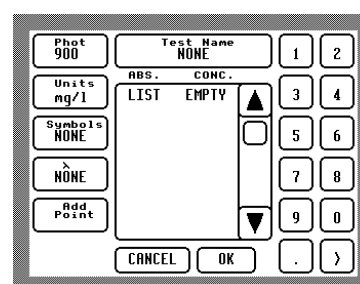

Fig 24 - Add Custom Tests
- Touch **Add**. The Add Custom Tests screen will be displayed – see Fig 24 :-